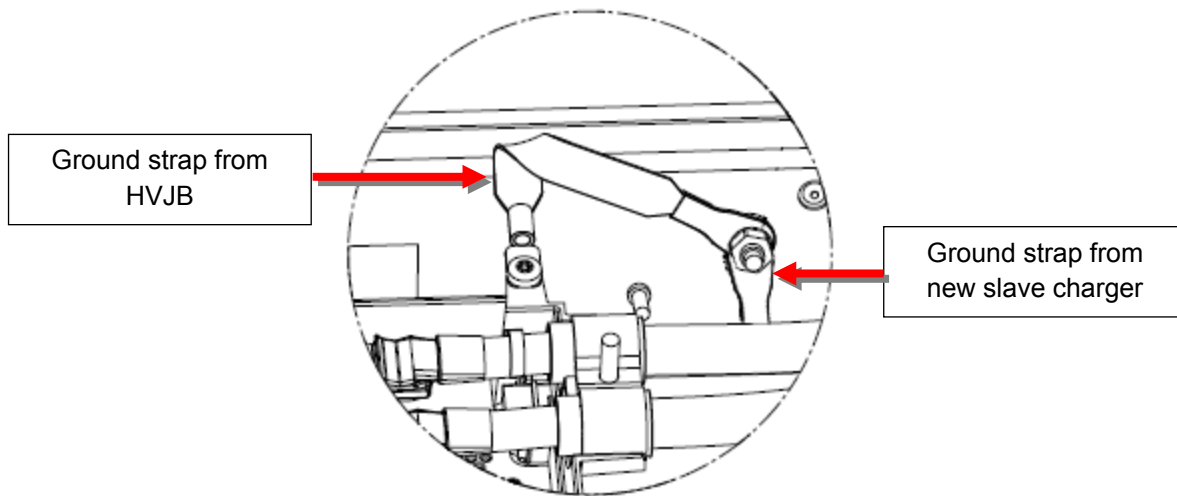

Figure 16
26. Attach the ground strap from the new slave charger to the ground stud, then secure the ground strap from the HVJB to the ground stud. Ensure that the ground strap for the slave charger points down (Figure 16). Secure the ground stud nut (torque 7 Nm).